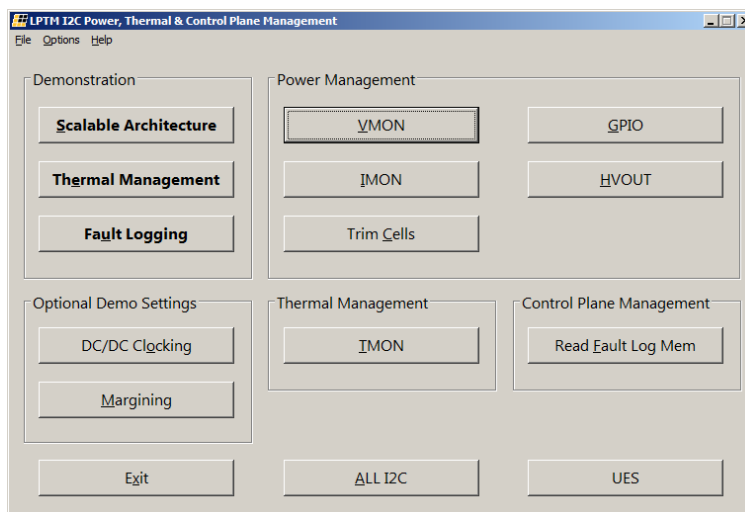

Figure 8.9. LPTM I2C Power, Thermal & Control Plane Management Dialog Box
- Set JP10 and start the Lattice Platform Manager I2C Utility tool from the \machXO3LF_9400C_hardware_management_demo\tool folder. The LPTM I2C Power, Thermal & Control Plane Management dialog box opens, as shown in Figure 8.9. Click the VMON button. Please check JP10 if the software report **Required ASC device is not found**